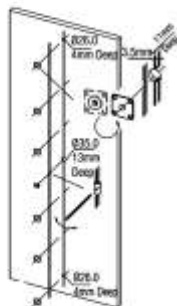

Fig. 3.
4. Cut a router of 3,5mm x 11 mm deep connecting the  $\varnothing$  26mm cavity as shown in Fig. 3